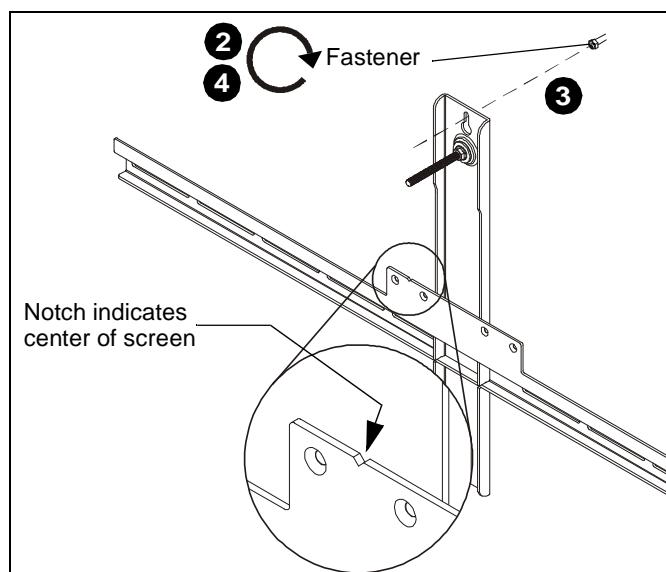

Figure 3
2. Install one fastener (See Table 1) into previously drilled hole, leaving 1/2" of fastener extending from wall. (See Figure 3)
3. Hang wall bracket assembly onto fastener. (See Figure 3)
5. Tighten fastener against wall bracket. (See Figure 3)